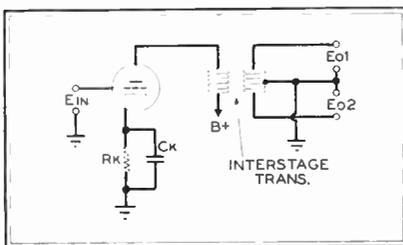

Fig. 1. Interstage transformer phase inverter
**Method 1:** Probably the simplest way to achieve phase inversion is by the use of an interstage transformer with a center-tapped secondary, Fig. 1. The center-tap is grounded or returned to a